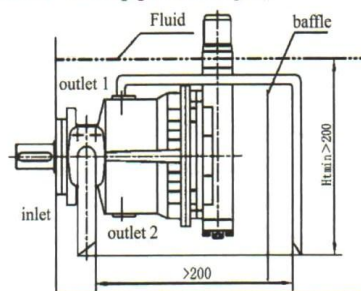

Fig. 3
- a) If the minimum fluid level is above the top of the pump, port "outlet 2" closed, "outlet 1" and "inlet" should remain open, "outlet 1" piped and recommendation "inlet" piped (see Fig. 3)